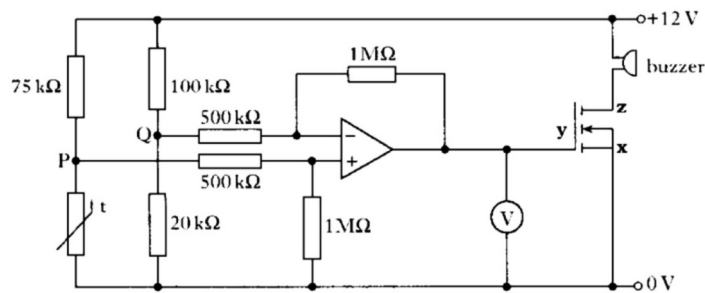

Figure Q3
- 3 a) A car is fitted with an alarm which sounds a buzzer when the outside temperature falls below 10°C. The sensor is a thermistor, buzzer control circuit shown in Figure Q3.